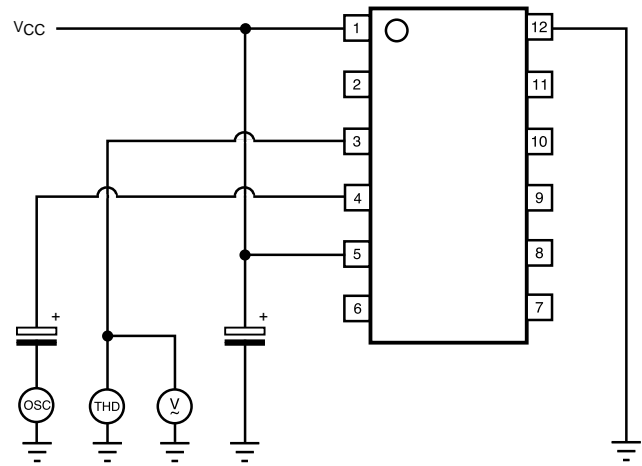

Figure 6
**MAXIMUM INPUT LEVEL (FIGURE 6)**